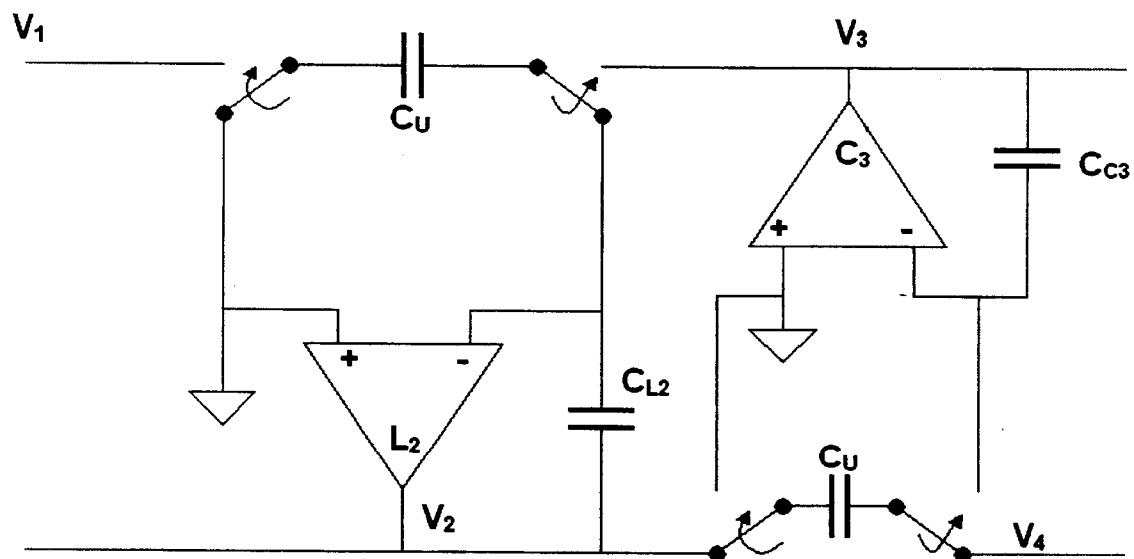

Figure 5.3
- (c) Figure 5.3 shows one section of a switched-capacitor ladder filter. Based on this filter structure design a 3rd-order Chebyshev low-pass switched-capacitor filter with a cut-off frequency of 5 kHz and a 1.0 dB pass-band ripple. Assume a clocking frequency of 100 kHz. Passive component values for the L-C prototype, normalised to 1 rad/s, are $C_1 = C_3 = 2.0236$, $L_2 = 0.994$. In your analysis you may assume all integrators to be lossless. [8]